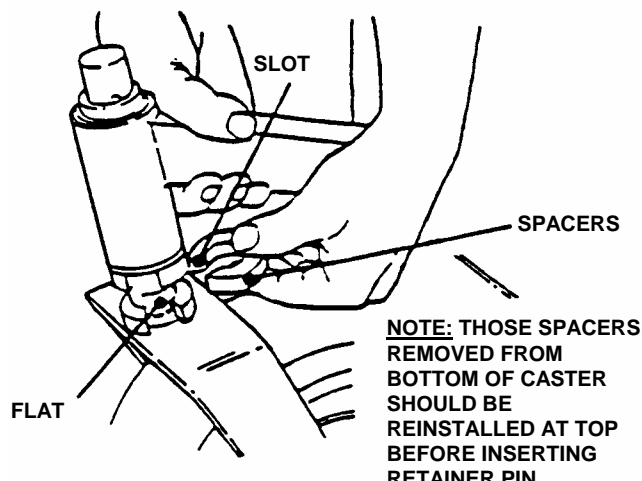

FIGURE 3.12
2. Lift Caster Support while adding or removing bottom spacer. See Figure 3.12.